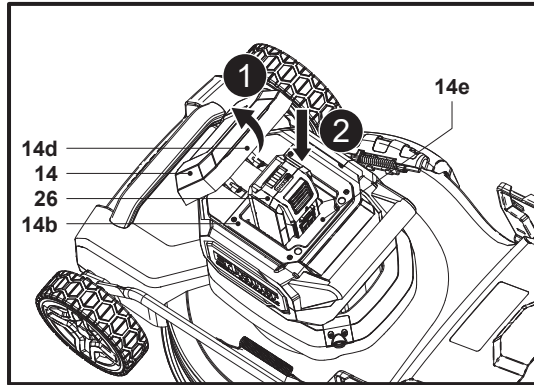

Fig. 7
1. Hold the lip (14d) and open the battery compartment cover (14) (Fig. 7, step 1).
2. Align the battery pack (26) with the sliding slots (14b) of the battery compartment (14e) and slide the battery pack (26) in to attach it (Fig. 7, step 2).